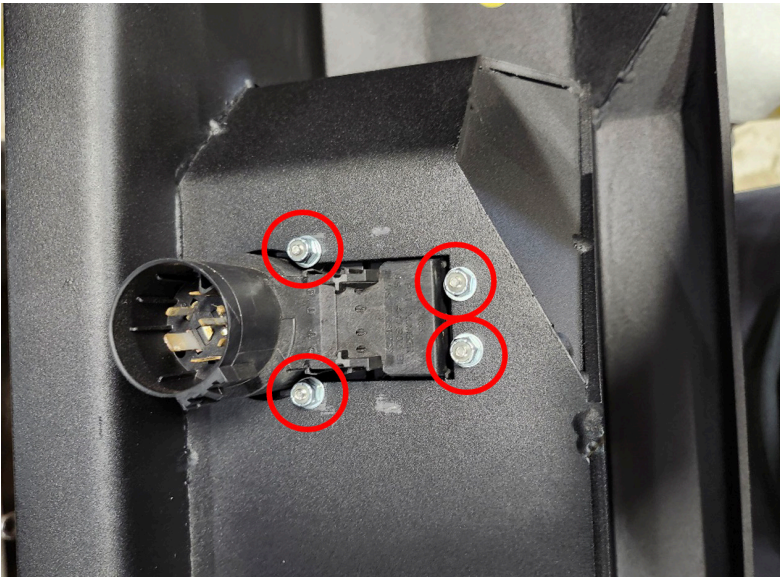

Figure 15
17. Hold the plug into the bumper and use a marking tool to mark the four (4) holes in the bumper. Use a 3/16" drill bit to drill holes in the plug. Use four (4) #8 bolts, washers and nylock nuts (50494-HW) to fasten trailer plug into bumper. (Figure 15)